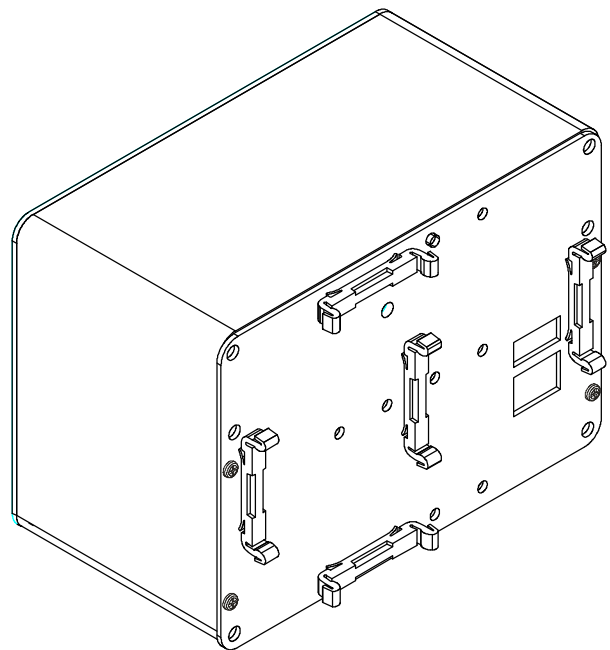

FIG. 4 VERTICAL AND HORIZONTAL ORIENTATION
- Step 4. Thread the four (4) threaded rods through the appropriate holes in the panel and into the bezel. For the retrofit you don't have to place the rods through the holes. (See Fig. 4)